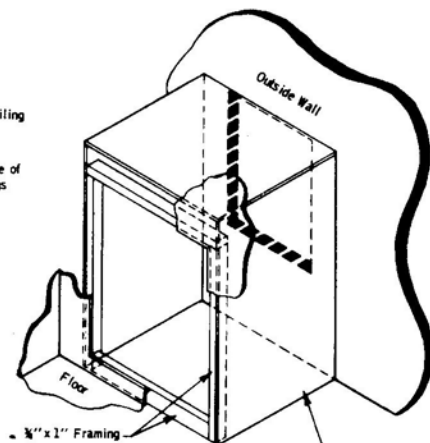

FIG. 2 Recommended enclosure if desired, (combustible material)
NOTE: If wall where furnace is to be mounted is of thin material such as ¾" plywood, the back of the opening must be framed with ¾" x 1" (minimum) stock to assure sufficient support. See Figure 2.
7. Enclose body and furnace tubes as well as vent box assembly. See Figure 2. Enclosure must prevent combustible materials from contacting furnace parts as well as preventing objects from damaging the unit. If space for installation is limited, follow tables II and III for minimum clearance around the furnace and vent tubes.
In actual installation, however, the enclosure need not contact the outside surfaces of the unit and may be as simple as shown in Figure 2.